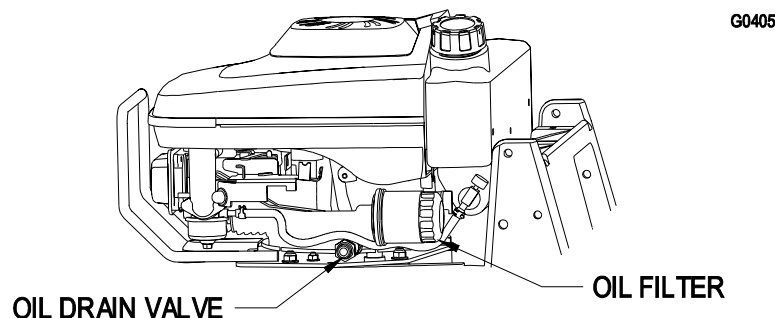

FIGURE 26
4. Place a suitable drain pan under the oil drain (Fig. 26).